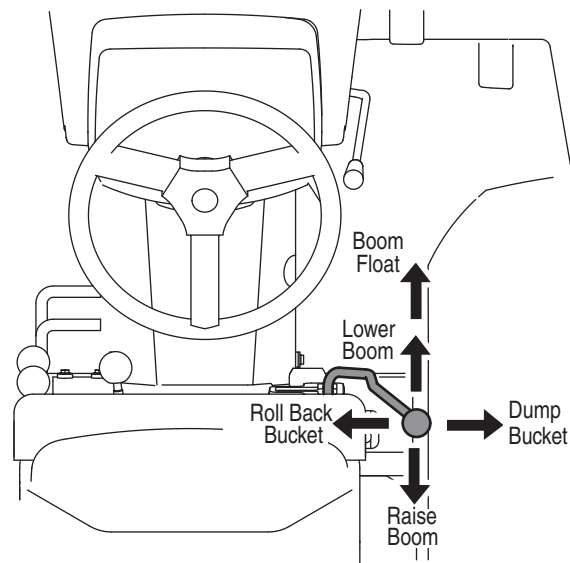

Figure 10
- By SLIGHTLY moving the implement control lever in the various directions, check that all control lever positions correctly operate the loader movements as indicated in Figure 10.
WARNING: Do not operate unless all control lever positions function as instructed in Figure 10.